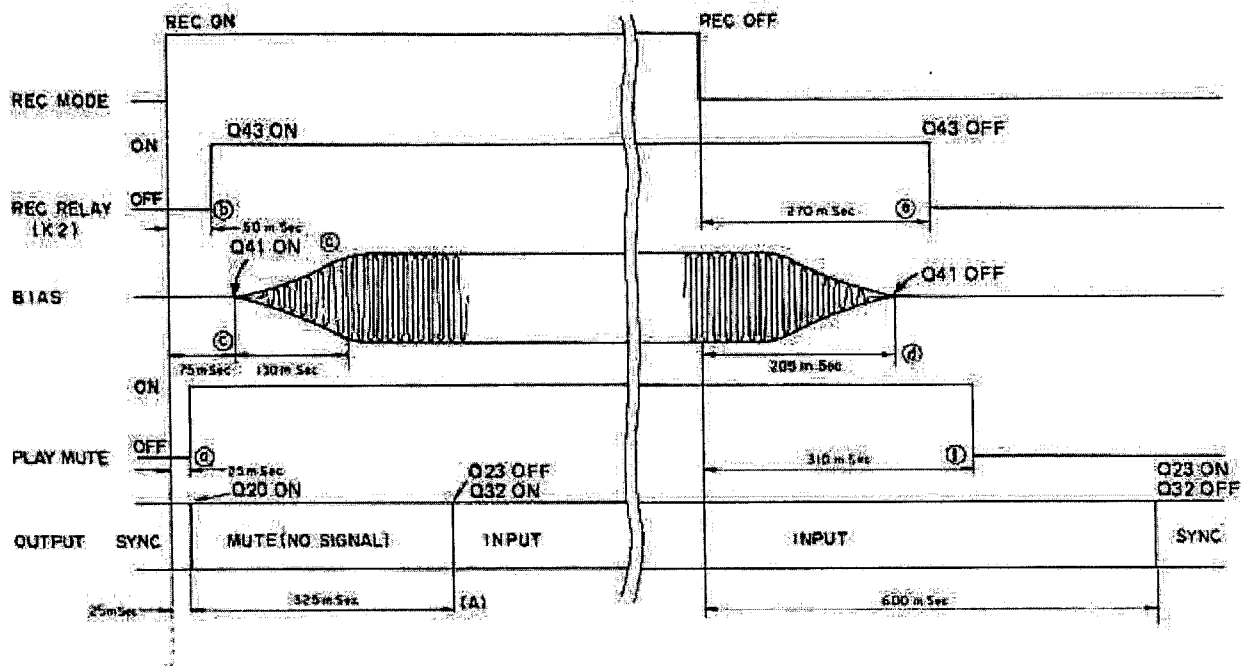

Fig. 8-8-2. Record On/Off Mute Timing Chart
7. In this way, switching operations for both Q32 and Q23 are made under influence of four time constants, each relating to capacitors C54, C53, C52 & C49, and C54, C53, C52 & C50 (as stated in 4, 5 and 6 above). Accordingly, their total time required for switching operation becomes considerably long as shown in Fig. 8-8-2 (A).
8. When Q38 is cut off, Q39 is turned on until C44 is charged; thereby, discharging the residual charges stored in C43. Then C43 is recharged through R144, R145, R146 and, when recharging is completed, Q40 is turned on. After this, charging to C42 begins through R143, R147 and the charged voltage reaches approx. 0.6 V, which causes Q41 to turn on to actuate the bias oscillator amp. In this way, the operation of bias amp is influenced by the corresponding C44, C43, and C42 time constants, causing the bias driver oscillator to start functioning at approx. 75 msec, after the record-in operation has been set, to gradually increase the bias amplitude as shown in Fig. 8-8-2 (C). Accordingly, the amplitude of the signal being recorded on the tape is also gradually changed to the steady state, thus eliminating switching noises.
10. The charges stored in C43 is discharged through D56, R145, Q38 (emitter-collector path) as Q38 is turned on. Then Q40 is cut off, followed by Q41 cutting off. The time required to cut Q41 off depends upon the sum of the discharging time constants of C43 and C42, and is set to approx. 205 msec, as shown in Fig. 8-8-2 (D). As the result, the bias oscillator voltage amplitude of the bias driver amplifier is gradually attenuated as illustrated, and the amplitude of signals being recorded is also attenuated gradually.
11. When Q45 is turned on, the charges stored in C53 is discharged through R162 and Q45 (emitter-collector path), cutting off Q43 as the discharging potential is decreased. Then the REC relay is switched in to the Repro side. The time required to actuate the REC relay is set to approx. 270 msec, completely after the bias oscillator voltage amplitude has been attenuated to zero. Refer to Fig. 8-8-2 (E).
2. Since Q50 base bias falls as the MUTE terminal goes L, Q50 is cut off and the voltage at junction R195 and C48 rises for the time period determined by R194/R195 and C48 time constant. Since voltage is applied to the base of Q20, Q20 is turned on after the time constant time (approx. 25 msec), and the sync reproduction signal is shorted at ground through the emitter-collector path of Q20, thus disconnecting sync output from the OUTPUT terminals. Refer to Fig. 8-8-2 (a).
The time required for this switching has been adjusted to approx. 50 msec through the time constant circuits including C53, R162, C54, R164, etc. Refer to Fig. 8-8-2 (b).
On the other hand, PLAY MUTE terminal 5 of the connector P103 goes H immediately after the record-out operation, but Q50 base bias voltage is unable to rise because, at this time, output pin 4 of U6 (4, 5, 6) is being set to L. Therefore, Q50 is maintained cut off and Q20 is also held in its conductive state. Next, when Q42 is turned on, input pin 2 of U6 (1, 2, 3) goes H and output pin 3 and input pin 5 of U6 (4, 5, 6) go L, causing output pin 4 to go H. Accordingly, Q50 is turned on, and this makes Q20 cut off, thus releasing the shortout circuit for SYNC reproduction signals. In other words, Q20 can not be turned off until the REC relay completes switching in to the SYNC position. Thus no switching noise is developed in the monitor output circuit. Refer to Fig. 8-8-2 ①.